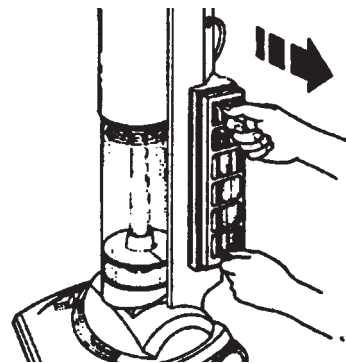

Figure 15b
3. The HEPA Filter fits snugly into the Filter Housing. Pull the tabs at the top and the bottom of the Filter to pull it away from the machine. Gently pull the Filter out of the Filter Housing. (See Figure 15b.)